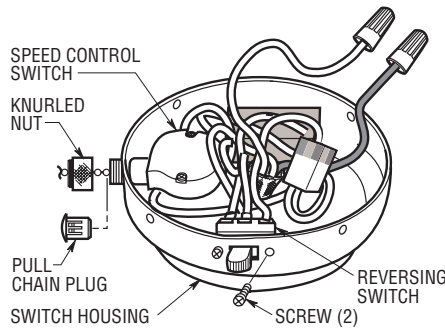

Figure 12
- 3. Remove two screws securing the reversing switch to the switch housing and place the pull chain plug in the exposed hole.(Figure 12).